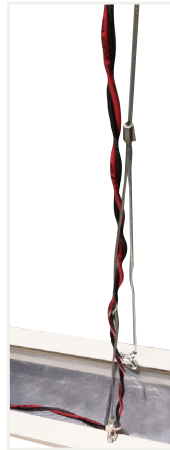

Figure 7
- 13 Route the TILT® Driveline from the remote TILT® Driver down the HK02 cable to the last panel in the driver's circuit as shown in figure 7. This could be 1-4 light panels per driver depending on the wattage of the driver.